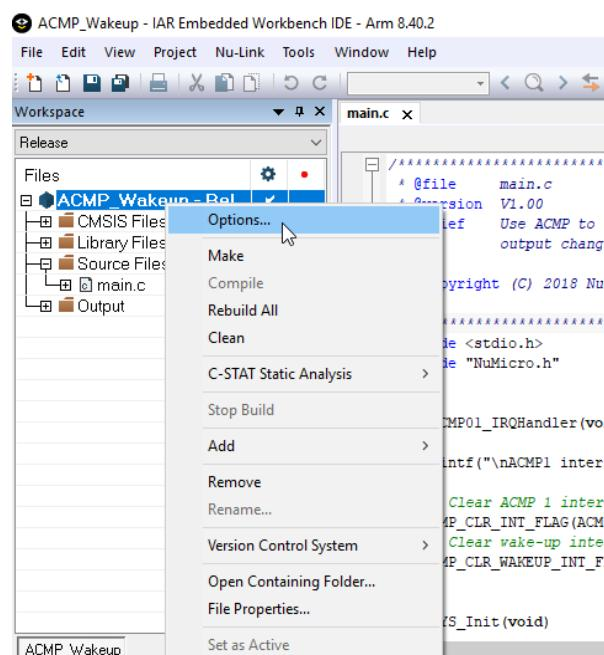
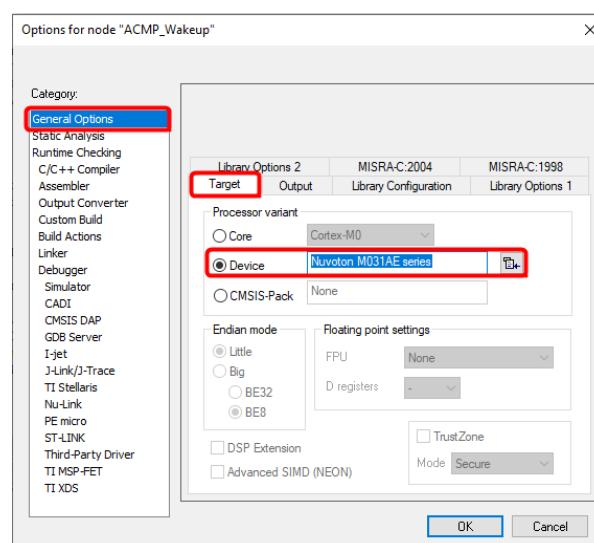

Figure 5.2-26 Options Selection
Figure 5.2-27 IAR EWARM Target Chip Selection
- (1) Install IAR EWARM. Make sure that Nu-Link_IAR_Driver for IAR EWARM has been downloaded and installed before setting the Nu-Link2-Pro such that the IAR EWARM can recognize the Nu-Link2-Pro.
- (2) Open IAR EWARM, and open the project to be set.
- (3) In the **Target** tab of the **General Options** page (through invoking **Project → Options**), click the button in the right of the **Device** option (make sure the **Device** option is enabled), and select “**Nuvoton → Nuvoton M031AE series**” as the target chip (M031AE series is this case), as shown in Figure 5.2-26 and Figure 5.2-27.